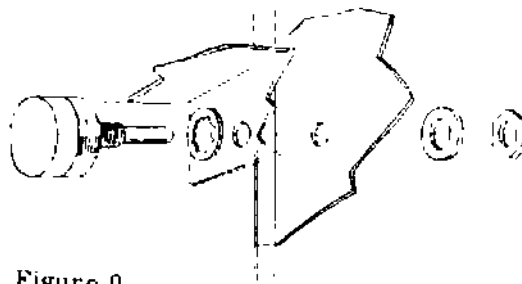

Figure 9
- ( ) Mount the sensitivity control in location M. See Figure 9 for details of hardware assembly. Keep the lugs exactly as indicated in Pictorial 3. On some controls, a small locating lug protrudes from the front of the control housing. If this interferes with the mounting, cut it off or bend it over.
- ( ) Mount the phone jack (see Figure 9 and Pictorial 3) in location L. Keep all lugs oriented exactly as indicated.
- ( ) Attach the free end of the 1 1/2" lead from M3 to the ground lug of the 1-lug and ground terminal strip (NS).
- ( ) Attach the free end of the 47 K $\Omega$  resistor (yellow-violet-orange) to terminal strip E2 (NS).
- ( ) Attach the free end of the 1 K $\Omega$  resistor (brown-black-red) to lug L2 (NS) on the phone jack. Be sure to use the previously prepared insulated sleeving.